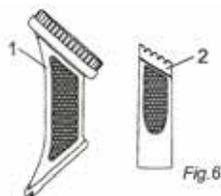

Fig.6
- Combi brush (Fig. 6/1)
- Crevice nozzle (Fig. 6/2)